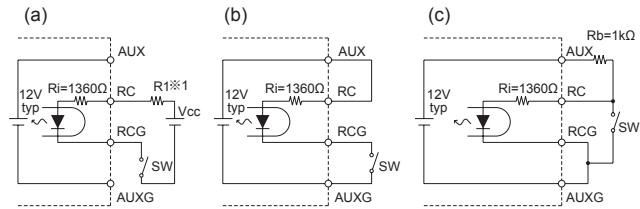

Fig.1.3 Examples of connecting method for remote ON/OFF
- The remote ON/OFF function can be operated by sending signals to CN3. Please see Table 1.2 and Table 1.3 for specifications and Fig.1.3 for connecting examples.
- ① The output stops when a current flows to RC.
- ② The current flown to RC is a 15mA max.
- ③ If the output voltage is turned off through the remote ON/OFF circuit, the WRN signals and the PG signals keep "Low".
- ④ Description in this section is based on the assumption that you will use one unit alone. If you are planning to use the units in parallel operation or use multiple units for a single system, please check necessary voltage and current values.
Table 1.3 Specifications of remote ON/OFF (Case of Fig.1.3)